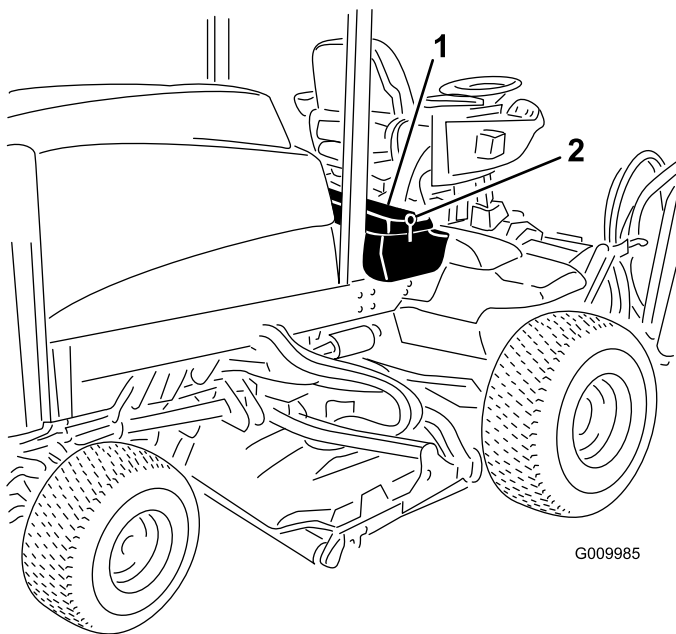

Figure 48
1. Unlatch and raise the operator's console panel (Figure 48).